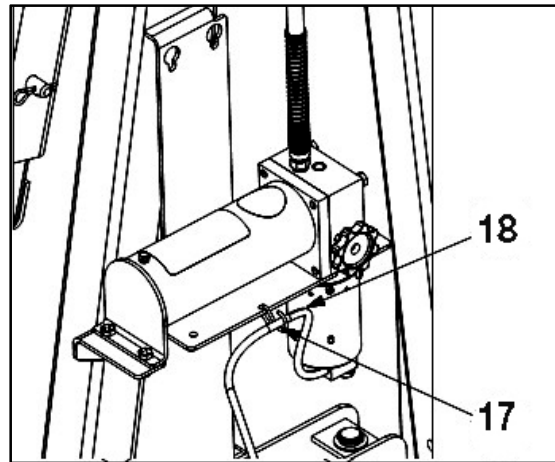

Fig. 7: Connect s-hook to hold air hose
3. Attach the S-hook [#17] to the hole in the pump bracket [#11] as shown in Fig. 7.